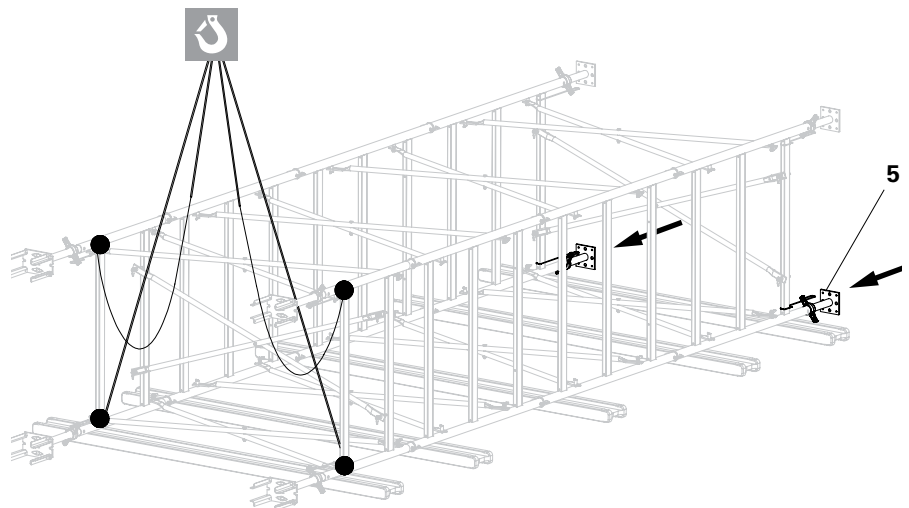

Fig. A2.09
1. Completely spindle in the bottom Base Spindles (5) in order to prevent overloading the components during erection.
2. Wrap four chains or textile lifting means, e.g. round slings, around below the cross brace (1.1) and inside the Diagonal Brace (2).
- (Fig. A2.09 + A2.09a)